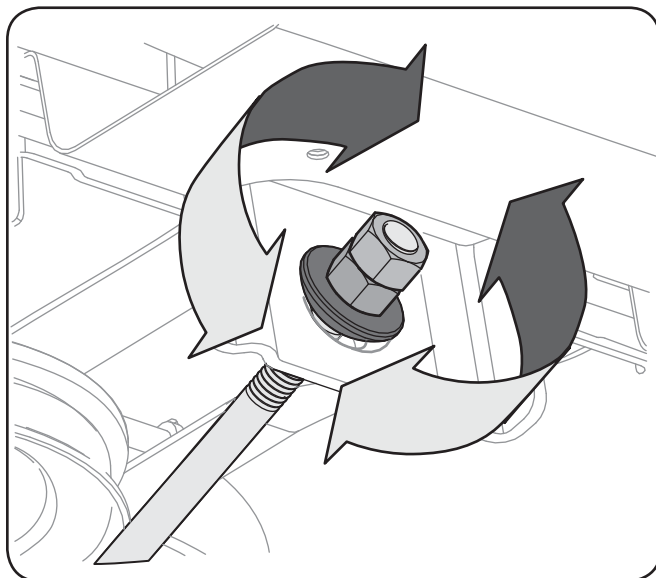

Figure 6-5
1. To *raise* the front of the deck, loosen the outer nut then tighten (thread inward) the nut against the front hanger bracket. See Figure 6-5. When proper adjustment is achieved, re-tighten the outer nut to 25-30 ft.-lbs.
2. To *lower* the front of the deck, loosen the outer nut then loosen (thread outward) the nut, away from the front hanger bracket. See Figure 6-5. When proper adjustment is achieved, re-tighten the outer nut.